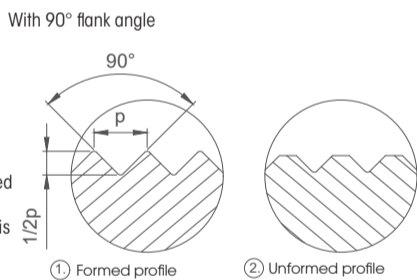

Fig. 7: Different profile pattern
The profile depth is set approx. 1mm behind the chamfer of the workpiece in the X direction and corresponds to approximately the half pitch p (with 90° flank angle), (cf. Fig. 7). After reaching the limit depth, the residence time of the tool should be 3 – 10 revolutions of the workpiece. Then move in the Z-direction until the desired knurl width is achieved. Then disengage the tool while the spindle is rotating
The correct profile depth has been reached when the profile is knurled completely (Fig. 7, ref. 1). A new setting takes place when the profile is not completely formed (Fig. 7, ref. 2). Re-adjustment in the profile is possible, because the knurling wheels catch in the existing profile. For guideline values for feed rate and cutting speed, please refer to Table 5, chapter 9.